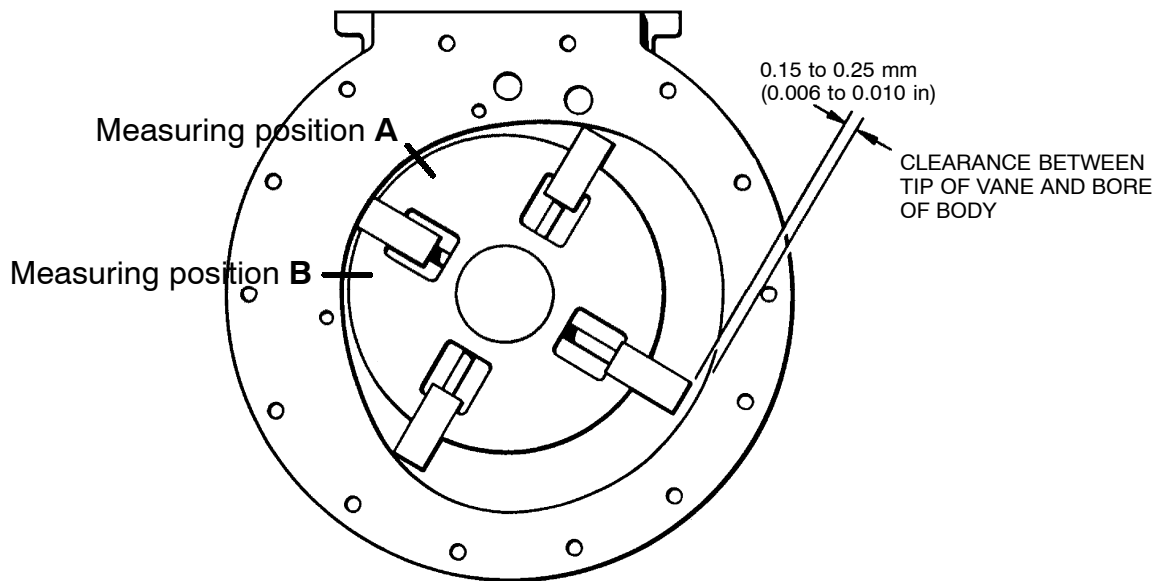

FIG 5.8 VANE CLEARANCE
- 10.21 In the position shown in Fig 5.8 check the clearance between the tip of the vane and the bore of the body (Table 1 Item 2). The clearance should be equal at each end of the vane to within .05mm (.002in). If the clearance is incorrect, reset the vanes by the adjusting nuts using special spanner TASZ 5008.